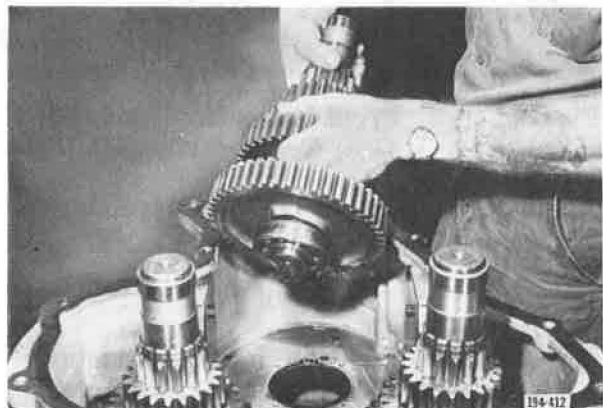

Figure 5-627. Installing Front Countershaft Assemblies
1. With transmission front case in a vertical position install the three front countershafts. See Figure 5-627.